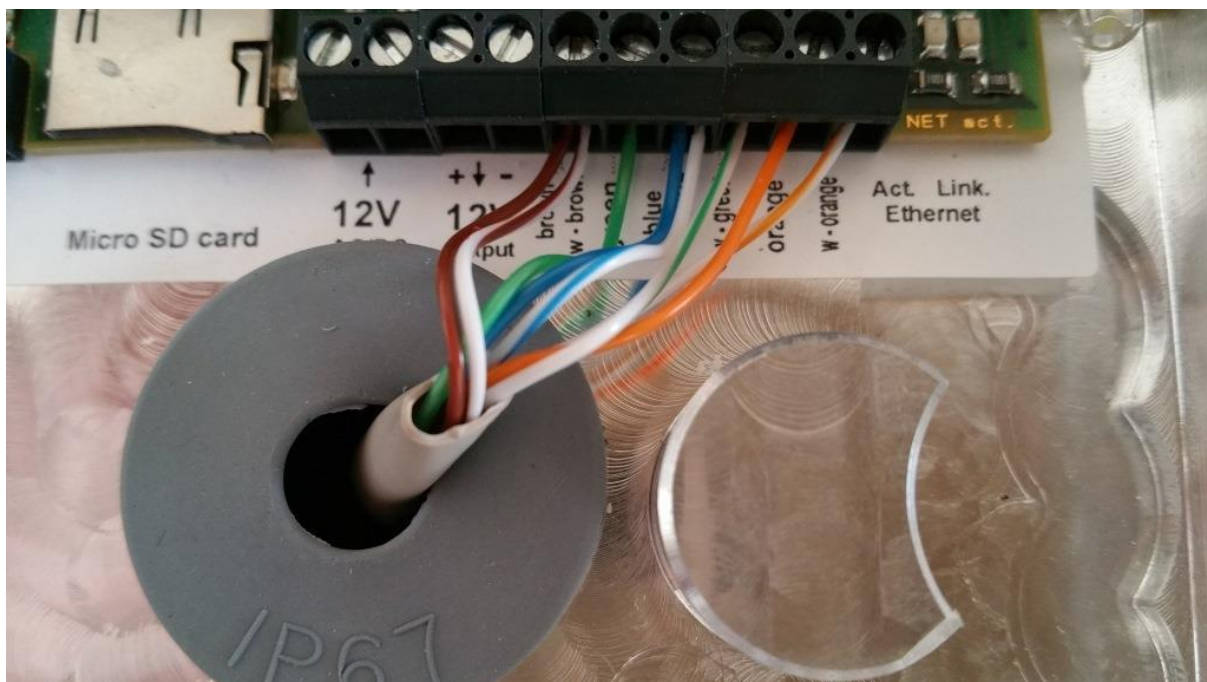
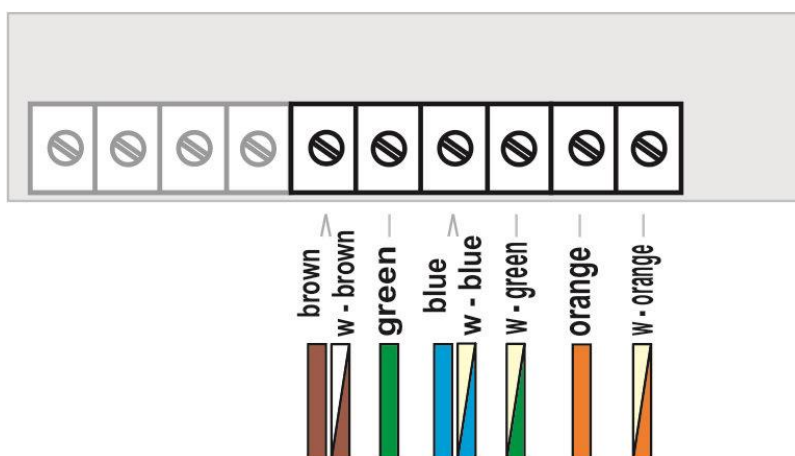

Fig. 13 – ETH UTP cable connection, PoE enabled
Fig. 14 Ethernet UTP cable connection
- Connect all the wires, see Fig. 13 and next Figures
Power supply: via PoE (according to IEEE802.3af) – see the Fig. 13 and Fig. 14 below or via an optional, external power supply adapter 12VDC/1A (recommended) or 12VAC/1A
Ethernet UTP cable connection (also see the figure 13 above):